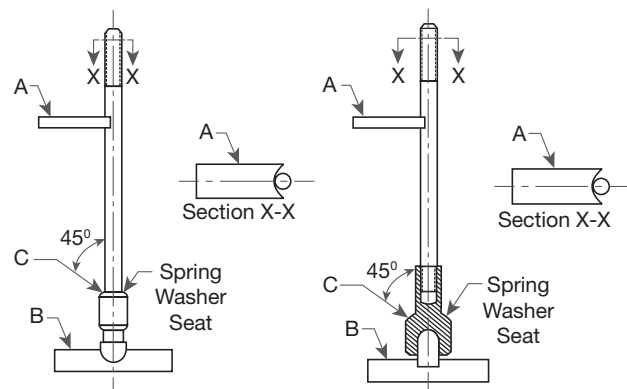

Figure 28: V-Block Support Setup
1. Set up the V-block support (see Figure 28) as follows:
- Place the ball-pointed spindles in a piece of material B that has been recessed to permit free rotation of the spindle (15). For hollow spindles, a ball-pointed support is required.